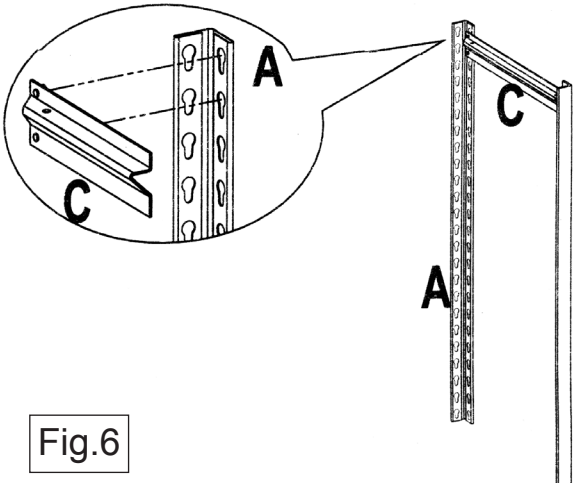

Fig.6
4.4 See Fig.6. Now make up an upper end frame by connecting two angle posts together at the top with a short 'Z' beam (C). Tap the beam at either end to ensure that the rivets are properly seated at the bottom of the keyhole slots. Make up a second upper end frame using the remaining two angle posts and a short 'Z' beam.